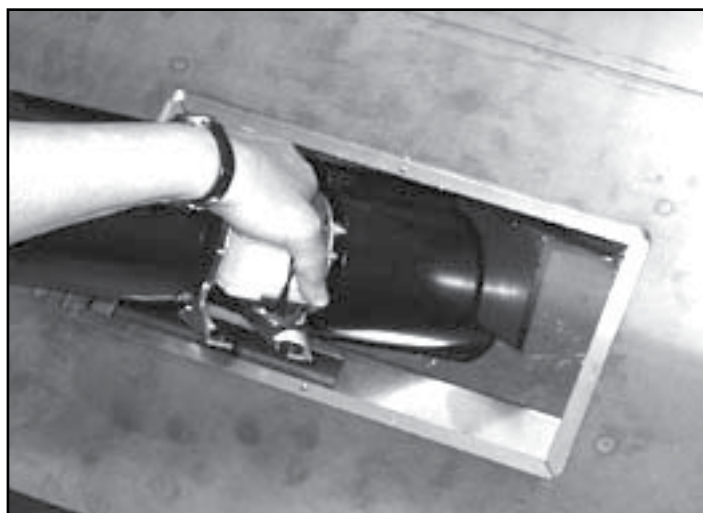

Figure 30.3 Installing Fans
5. Before installing the fan, make sure the grommets are tightly in place. Insert the right fan and place over the 2 locating pins. Repeat for other fan. Figure 30.3.